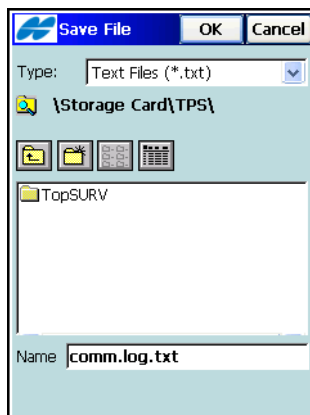

Figure 1-12. Save File
- *Log to file* – check mark this box to save the data to a file. The **Save File** screen displays (Figure 1-12). Assign a name and select a desired directory in which to save the file on the controller.